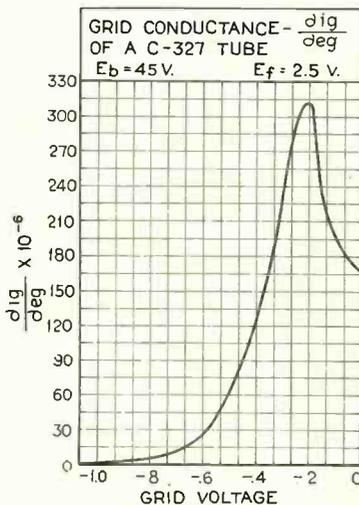
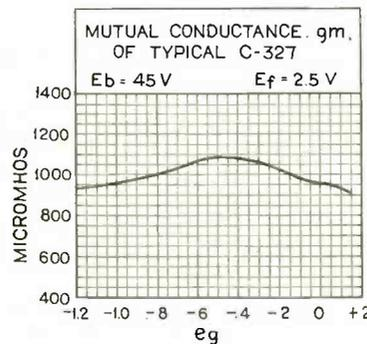

FIG. 2
FIG. 5
Fig. 2 shows the value of grid conductance plotted against grid voltage over the useful range of grid voltages. The grid conductance was calculated by dividing $\frac{\delta i_g}{\delta e_g}$ by Δe_g found from Fig. 1. This method is explained in a previous article by the author⁴ or any good radio text book dealing with tube characteristics.
may be found from the kg - eg curve of Fig. 2 by taking small triangles Δkg and Δeg and dividing Δkg by Δeg .
1. For example, the value of R_1 to pass through -0.7 volt and zero may be found as follows: from Fig. 1 i_g is three microamperes and from Ohm's Law R_1 is 0.7 divided by 3×10^{-6} or 233,000 ohms. The value of k_g at this voltage is found from Fig. 2 to be 26×10^{-6} mhos. The value of $\delta k_g / \delta e_g$ was calculated from Fig. 2 as explained previously. The value of g_m was found from the I_b - E_g curve with constant plate voltage, as explained for finding k_g . The value of ΔI_b is divided by Δe_g at the different voltages. The value of g_m is shown plotted in Fig. 5.